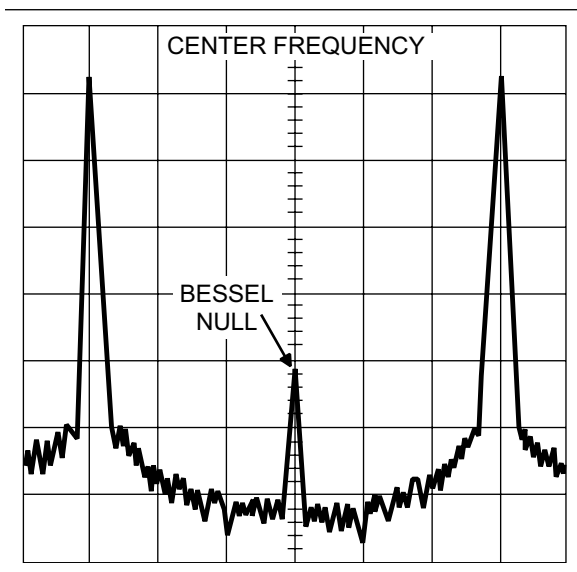

Figure 4-10. Typical Spectrum Analyzer Display of Bessel Null on FM Waveform
- e. While observing the first Bessel null (Figure 4-10) on the Spectrum Analyzer display, adjust the value of the DAC's setting to reduce the carrier level as low as possible.
- d. While observing the first Bessel null (Figure 4-10) on the Spectrum Analyzer display, adjust the value of the DAC's setting to reduce the carrier level as low as possible.
- f. While observing the first Bessel null (Figure 4-10) on the Spectrum Analyzer display, adjust the value of the DAC's setting to reduce the carrier level as low as possible.